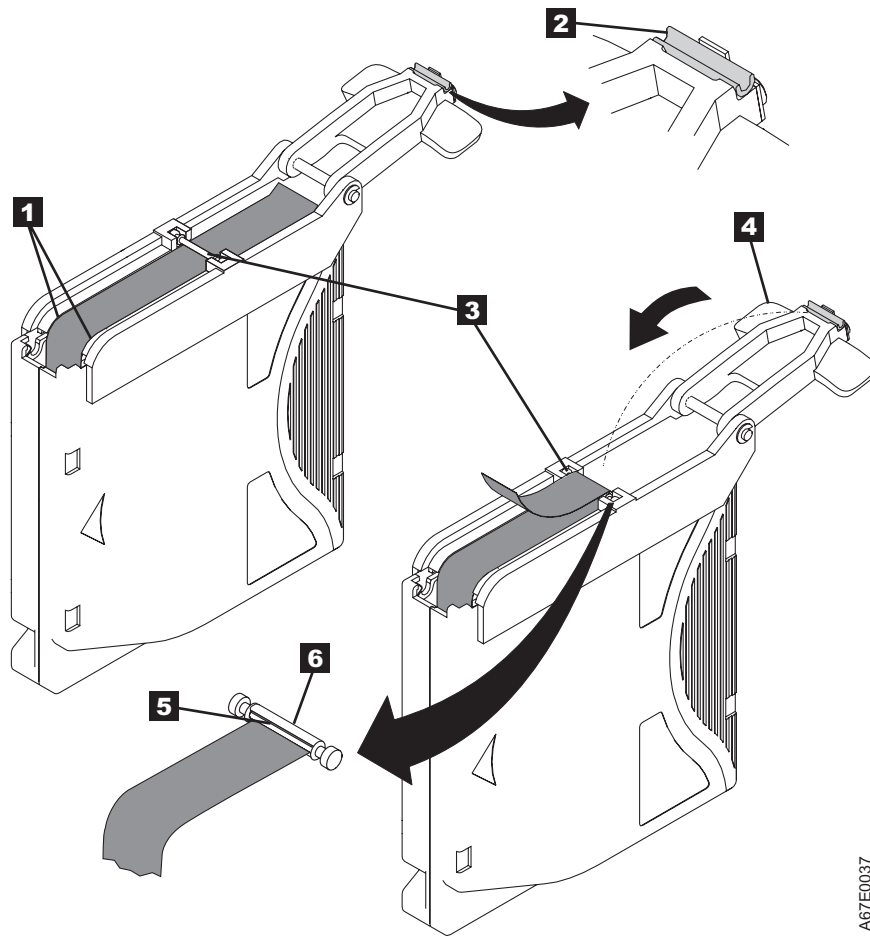

Figure 5-15. Attaching the leader pin to the tape
7. Position the tape in the alignment groove of the leader pin attach tool (see **1** in Figure 5-15 on page 5-17).
8. Place a new C-clip into the retention groove **2** (Figure 5-15 on page 5-17) on the leader pin attachment tool and make sure that the clip's open side faces up.
9. Place the leader pin (from step 6) into the cavity **3** (Figure 5-15 on page 5-17) of the leader pin attach tool.
10. Fold the tape over the leader pin and hold it with your fingers (see Figure 5-15 on page 5-17).